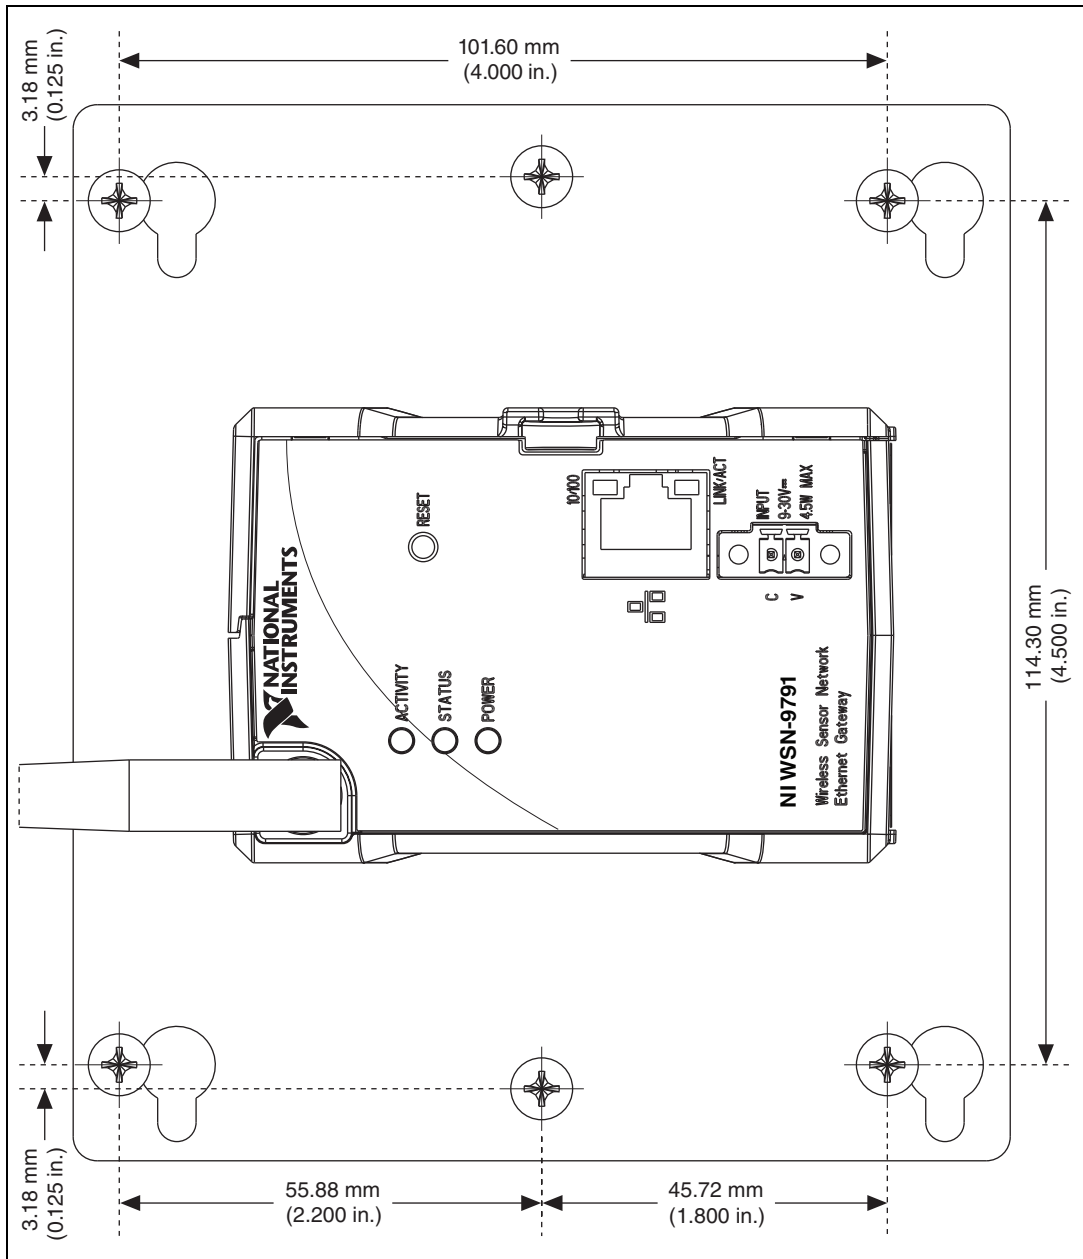

Figure 5. NI WSN-9791 Panel Mount Dimensions Template
Note Figure 5 is an actual size template. You can print it out and use it to determine screw hole placement for panel mounting.
2. Attach the device and attached plate to a wall or other surface using four to six number 8 or M4 screws. Refer to Figure 5 for the mounting hole template.